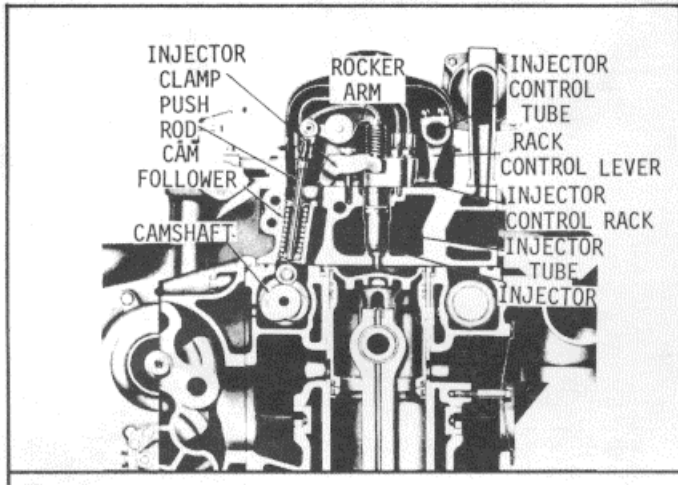

Fig. 6 Fuel Injector Mounting
The motion of the injector rocker arm is transmitted to the plunger by the follower which bears against the follower spring (Fig. 6). In
- (1) Clean and remove the valve rocker cover.
- (2) Remove the fuel pipes from both the injector and the fuel connectors (Fig. 6).